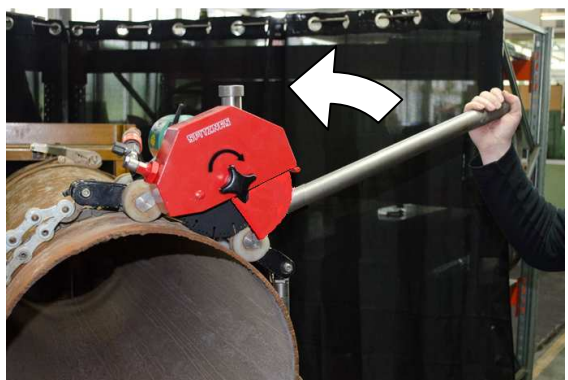

Fig. 9.1
9. Guide the machine around the pipe contrary to the rotating direction of the cutting tool by using the feeding pipe (see fig. 9.1).